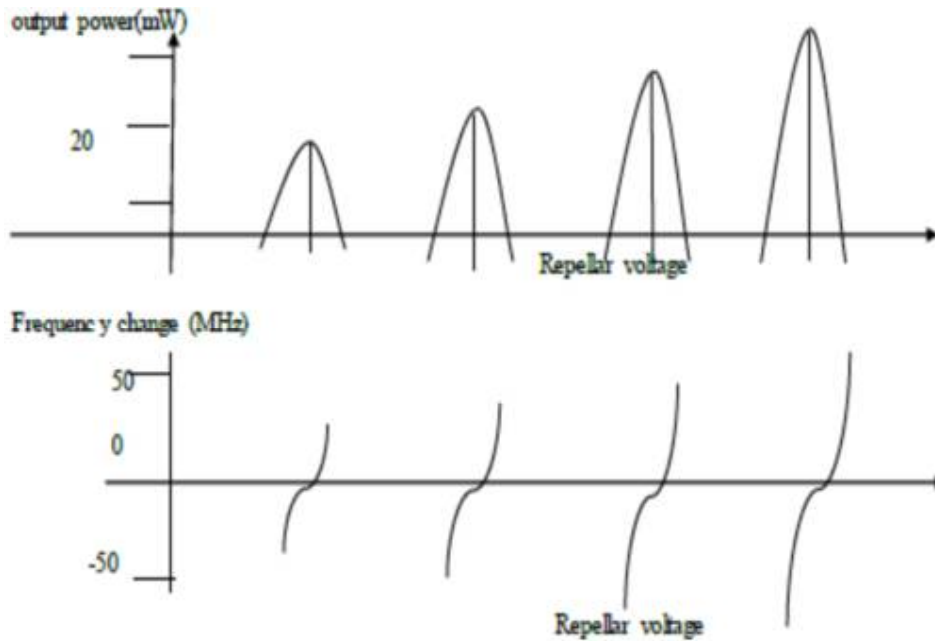

Fig.1.2 Characteristics of Klystron tube
8. Keep amplitude knob of FM modulator to maximum position and rotate the reflector voltage anti-clock wise to get modes as shown in Fig.1.2, on the oscilloscope. The horizontal axis represents reflector voltage axis and vertical represents output power.
10. At each of the above steps measure the frequency by tuning the direct reading Frequency meter to have dip in the observed wave in CRO, and plot the graph Frequency Vs Repeller voltage to get mode curves, as shown in Fig.1.2.